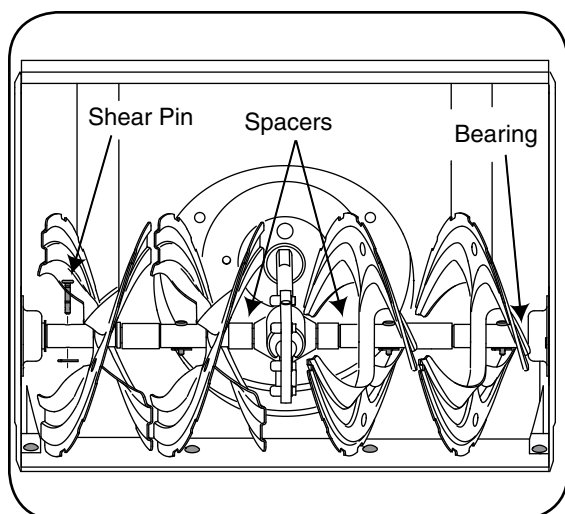

Figure 9
At least once a season, remove the shear pins on auger shaft. Spray lubricant inside shaft, around the spacers. Also lubricate the flange bearings found at either end of the shaft. See Figure 9.
- The augers are secured to the spiral shaft with two shear pins and cotter pins. If the auger should strike a foreign object or ice jam, the snow thrower is designed so that the pins may shear. Refer to Figure 9.